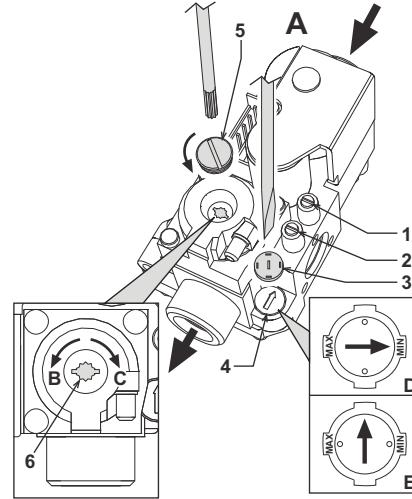

fig. 17 - Pressure adjustment
On PEGASUS D boilers, the firebox heating power and therefore the heat output delivered to the heating water can only be adjusted by means of the main burner through the gas valve, (see fig. 17). The diagrams given in the section cap. 5.2 indicate the variation in heat output delivered to the water according to the change in burner operating pressure. Being able to adjust boiler output to the actual heating requirements means above all reducing heat losses, and therefore obtaining fuel saving. Also, with the variation in output, also regulated by the provisions, the boilers keep their efficiency levels and combustion characteristics practically unchanged.
- Using a small screwdriver, remove the secondary operator protection cap 5 of the gas valve of fig. 17.
- Connect a manometer to the pressure point 2 (fig. 17) located below the gas valve, and turn the boiler thermostat knob to the maximum value.
- Adjust the pressure to the required value by means of the screw 6 (fig. 17), referring to the diagrams given in section cap. 5.2.
- Remove the small protection cap 3 (fig. 17) from the gas valve. Using a small screwdriver, adjust the ignition "STEP" for the required gas (G20-G25 position D fig. 17 or G30-G31 position E fig. 17); then refit the cap.
- Vent the air from the gas pipes by means of the gas valve pressure point 1 (fig. 17).